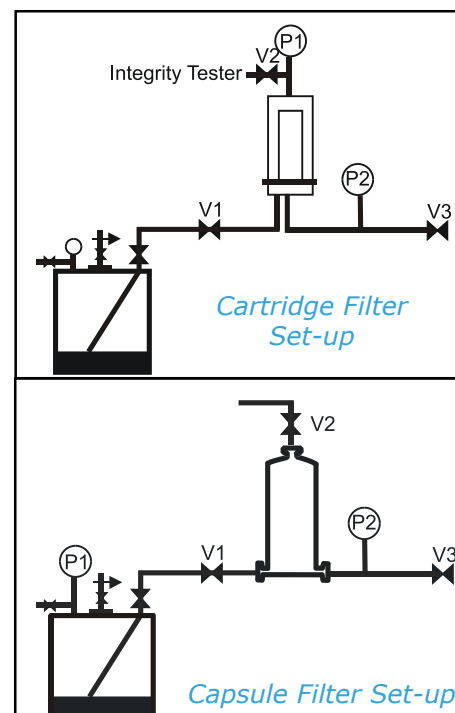

Figure 1: Typical setup for wetting with pressure
1. Set up the filtration system as shown in Figure 1 and close all valves (V1, V2 and V3).